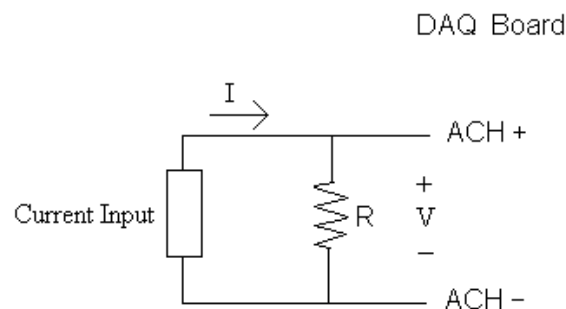

Figure 4 – simple shunt resistor example
The resistance of the shunt resistor depends on the circuit you are designing. In a design that deals with a larger currents a high resistance resistor will provide the most accurate measurement. The high resistance helps with accuracy by minimizing the effects of offset (2). If a low resistance is chosen this helps minimize the voltage loss in the supply line. In most applications a low resistance is needed in order to minimize the power dissipation. The most important aspect to think about when selecting the resistor is to keep the range of the voltage in the specified range. In many cases the recommended voltage range is between 50 mV and 100 mV (2). A simple shunt resistor circuit can be seen below in figure 4.